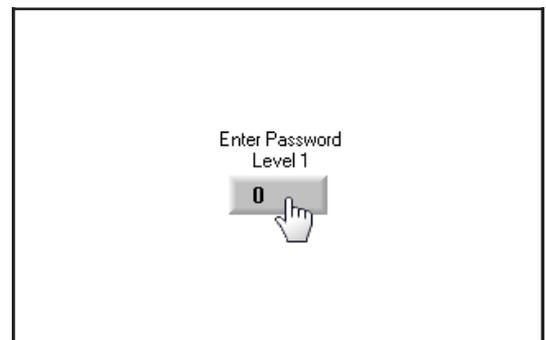

Figure 2.2.5a
2.2.5 Set up screen (user)**Password** (Figure 2.2.5a)